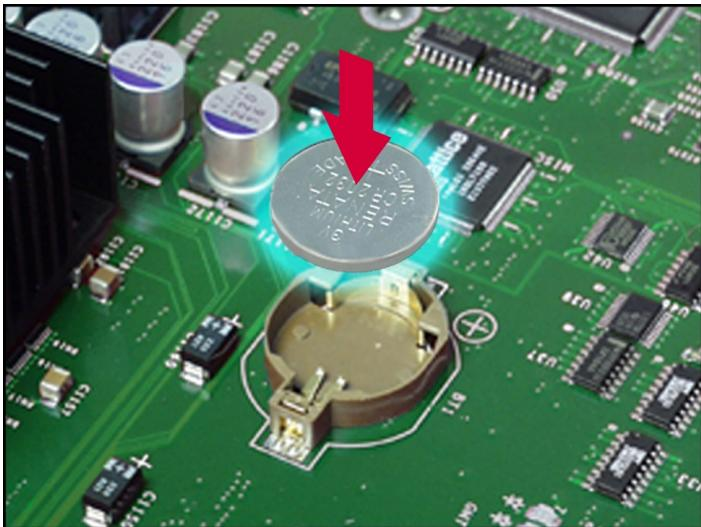

Figure G-1: Replacing the internal battery (plastic covers not shown)
4. Locate the battery on the host board, as shown in Figure G-1.